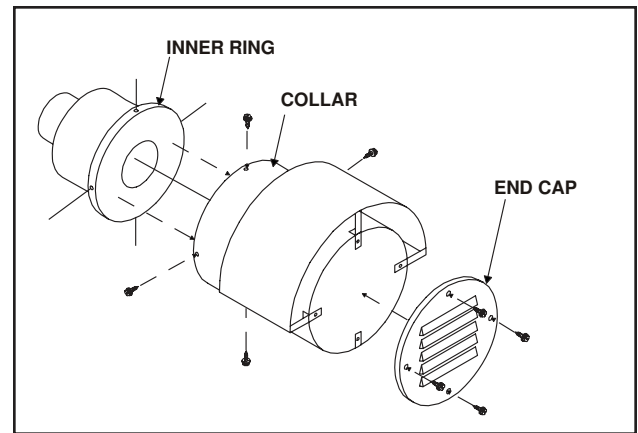

Figure 15.
- C. Fasten the wire mesh to the 10-1/2 in. collar to cover the exhaust port hole, using (4) sheetmetal screws.
- D. Slide the inner ring inside the cap assembly, carefully positioning the inner ring to its original orientation. See Figure 15. Carefully align the screw holes on the 10-1/2 in. diameter collar and the inner ring.
- F. Feed the four (4) wires back through the hole on the collar and tighten the nut on the right angle connector. Reconnect the brown and red wire to the vacuum switch and connect the black and white wires to the fan motor.